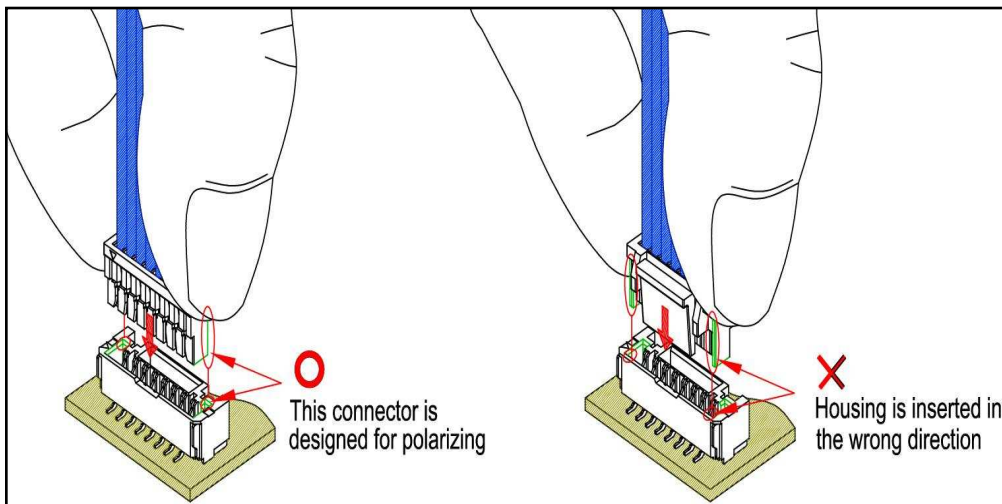

figure 3.2
3.2 This connector is designed for polarizing. Please be careful on the direction of the housing insertion. (see figure 3.2)